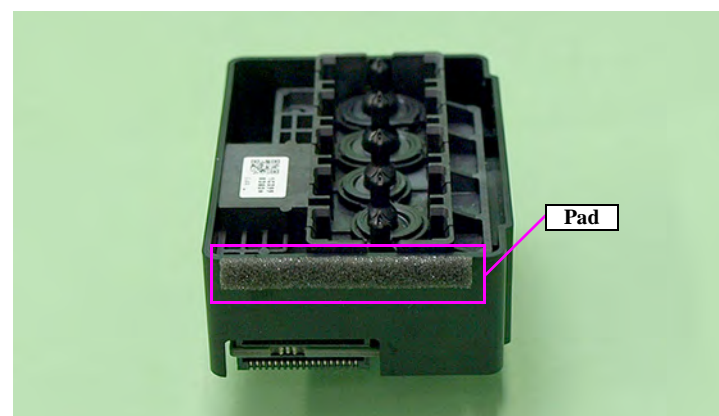

Figure 4-48. Attaching the Pad
- Confirm that the pad is attached at the position in Figure 4-48.